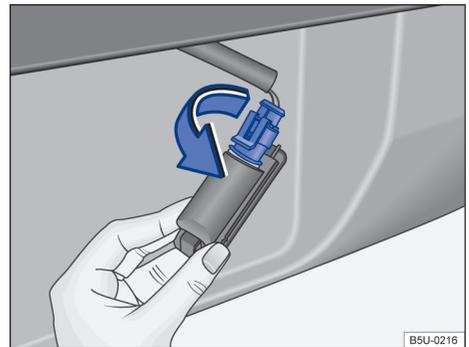

Fig. 140 Number plate light: remove the bulb socket.
- 3 Turn the bulb socket in the direction of the arrow → Fig. 140 and remove it from the housing.
- 7 Press down the socket and turn in the opposite direction of the arrow → Fig. 140.